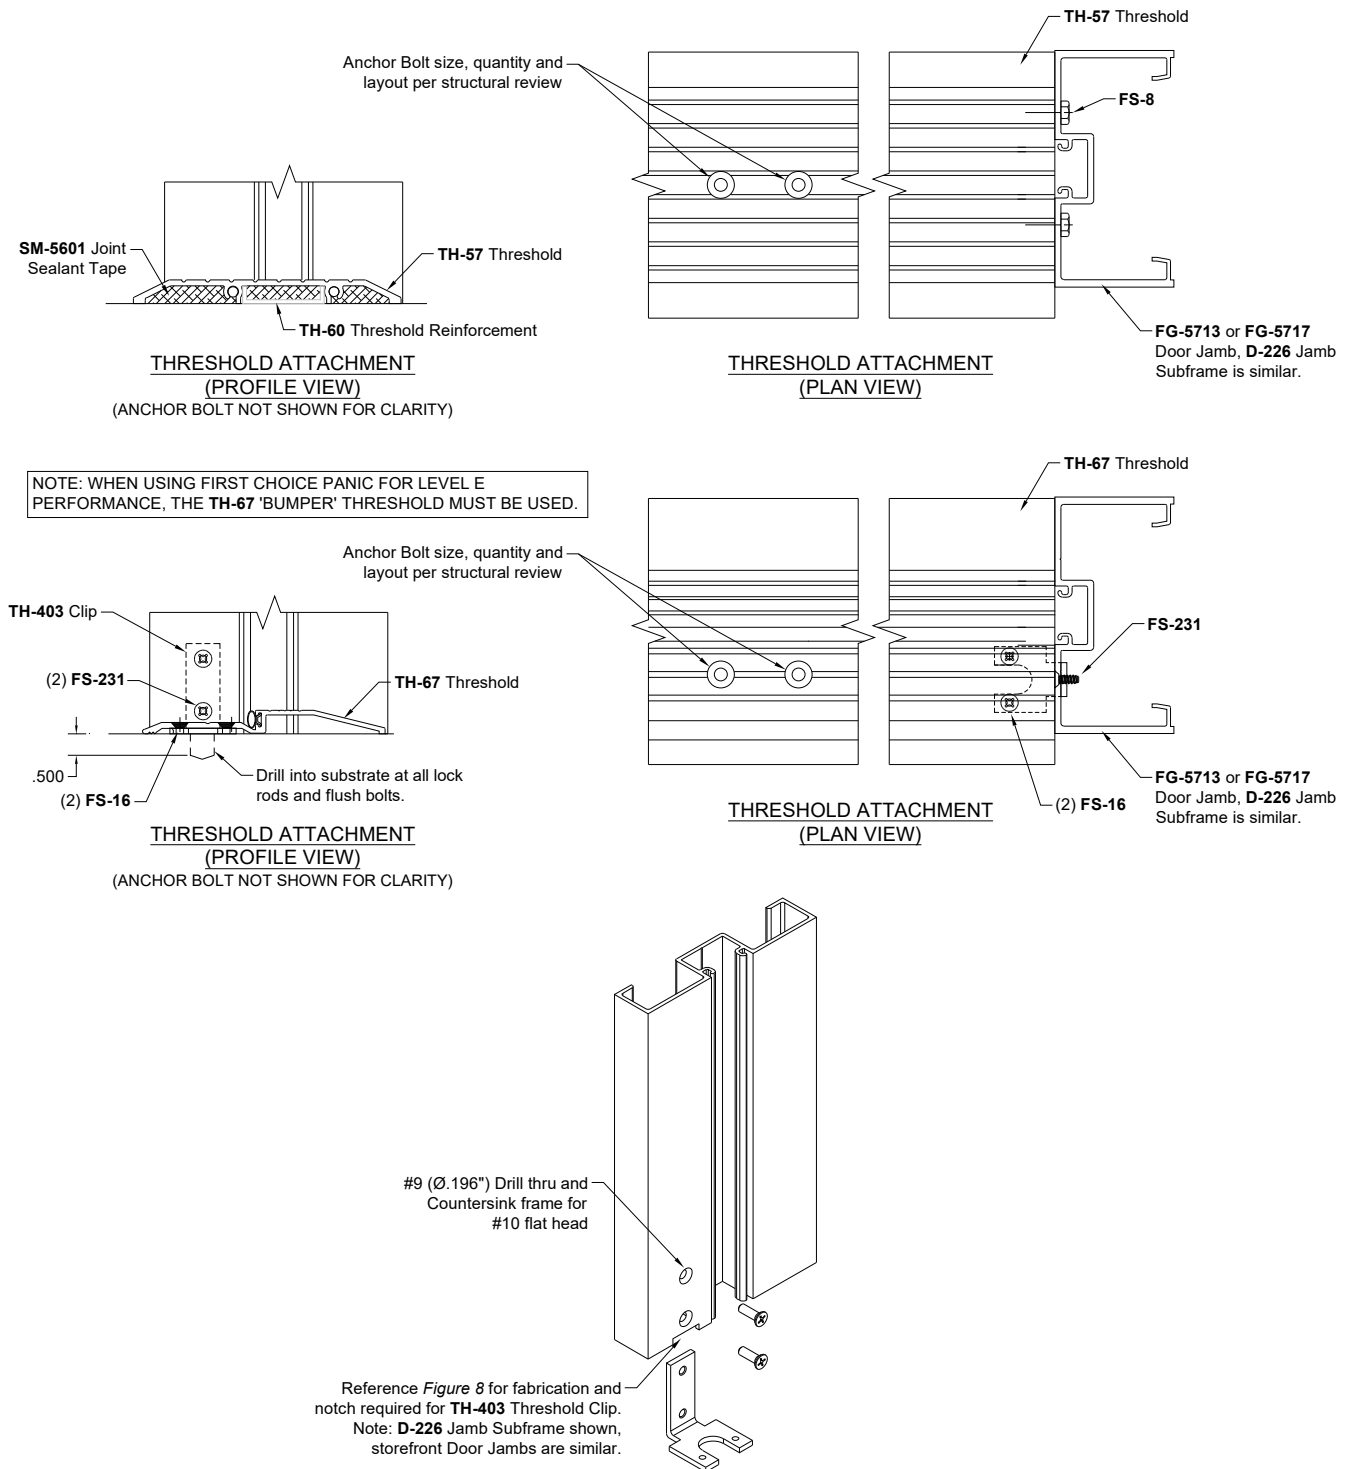

Figure 12: Attaching Threshold to Door Jambs
- 4.3 **TH-67** Threshold will attach to door jamb via **TH-403** Threshold Clip. Clip slots into interior of Door Jamb. Countersink Jamb for #10 Fastener and attach Clip with (2) **FS-231** (#10-24 x 5/8" PFH). When using the **FG-5717** Door Jamb, drill access holes in interior web for attachment of Clip to Jamb. **TH-67** attaches to Clip using (2) **FS-16** (#10-24 x 1/2" PFHUC). Reference *Figure 12* on Page 23.